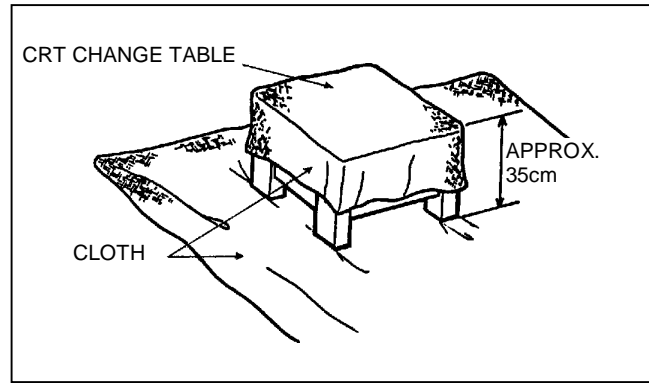

Fig. 3
1. Putting the CRT change table on soft cloth, the CRT change table should also be covered with such soft cloth (shown in Fig.3).
2. While keeping the surface of CRT down, mount the TV set on the CRT change table balanced well as shown in Fig.3.